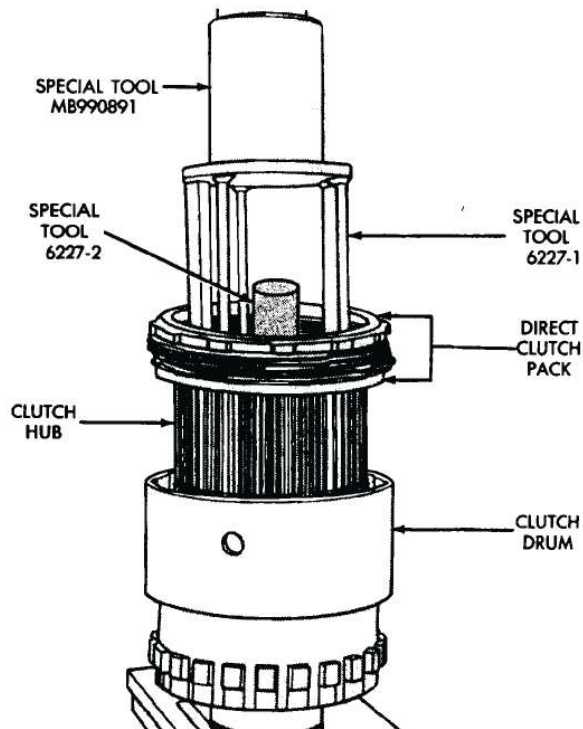

Fig. 60 Mounting Geartrain Assembly In Shop Press
(23) Mount geartrain assembly in shop press (Fig. 60).
(24) Position Compressor Tool 6227-2 on clutch hub (Fig. 60).
(25) Slide direct clutch pack upwards on hub (Fig. 60). Slide pack upward and set it partially on edge of hub and compressor tool as shown in Figure 60.